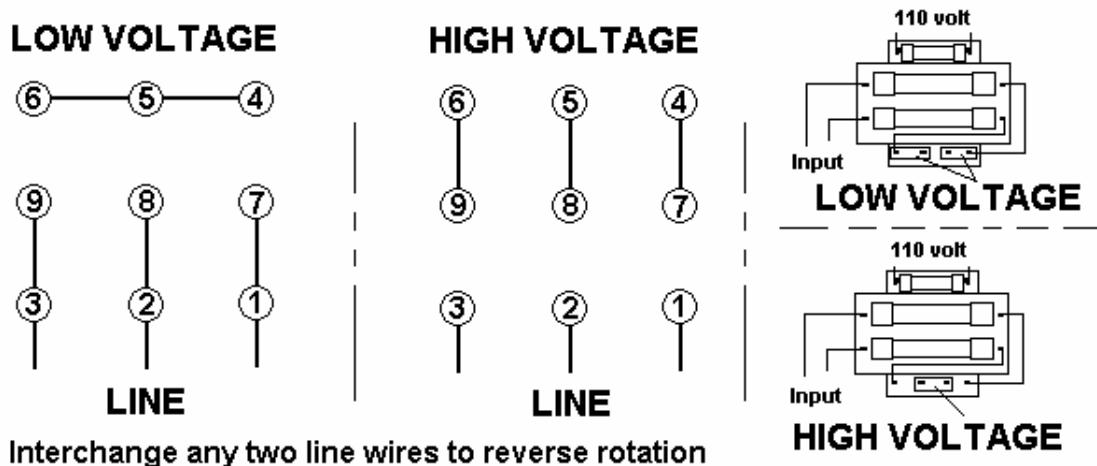

Figure 1: Motor & Transformer Connection Diagram
7.....	Figure 1 Motor & Trans. Connection Diagram